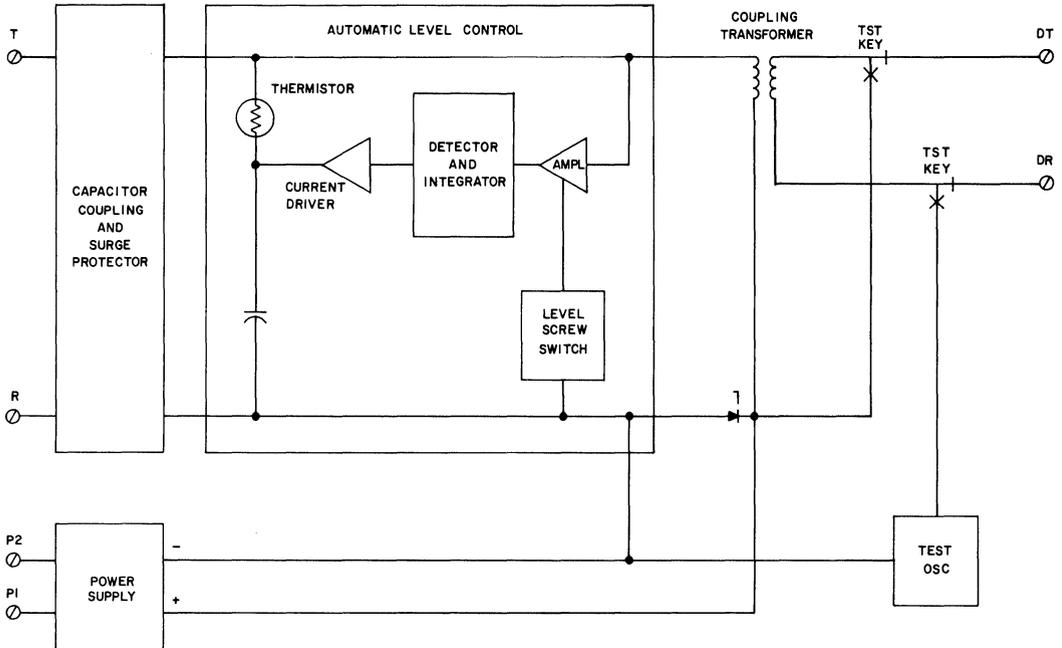

Fig. 3—Functional Schematic of 1000B Data Coupler
2.09 The coupler circuitry (Fig. 3) provides a transmission path consisting of the following.
2.13 Test Mode: The data coupler test circuit provides the means for applying a test tone to the line through the ALC circuit (Fig. 3). This permits testing the coupler level control and the line. The coupler circuit is designed to be remotely tested from the central office or tested locally on the customer premises.